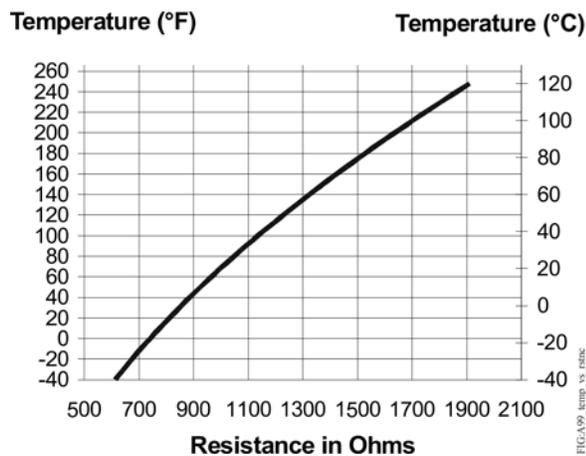

Figure 10: Temperature versus Sensor Resistance
- e. Consult Figure 10 to verify that the measured temperature and resistance conform to established temperature and resistance values.
- f. If the measured values conform to the values in Figure 10, proceed to Step 3.